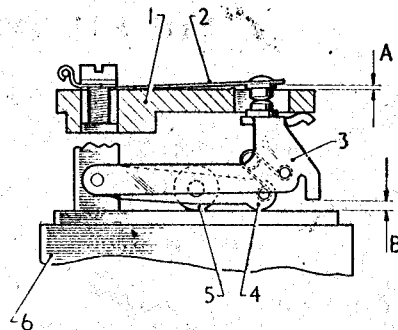

Fig. 13. The rocker finger settings on modified rocker assemblies
28. Check the lift of the contact blade tip above the top of the pedestal (A) (Fig. 13) with a feeler gauge, bending the stop-finger beneath the pedestal, if necessary, to obtain a lift of $.035 \pm .005$ in. ($.9 \pm .13$ mm.).
29. Check the gap between rocker finger and coil housing (B) (Fig. 13) with a feeler gauge, bending the stop-finger, if necessary, to obtain a gap of $.070 \pm .005$ in. ($1.8 \pm .13$ mm.).